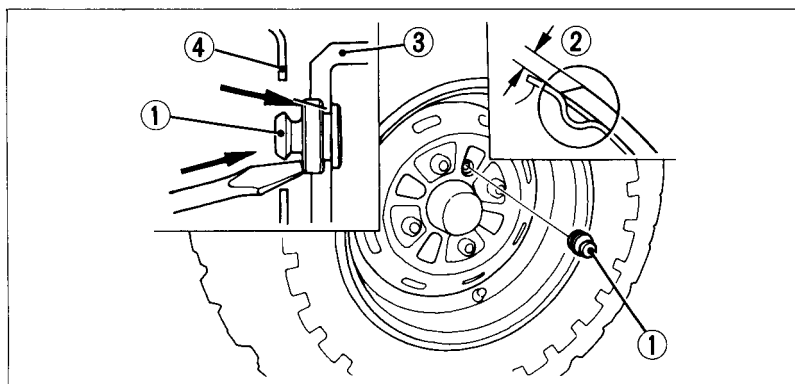
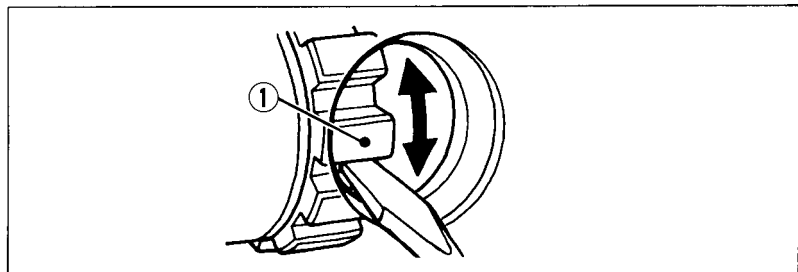

Fig. 4-22
Fig. 4-23
(1) Front brake lever
2. Remove the inspection hole plug (Fig. 4-22) and measure the lining thickness (2) on both front wheels.
3. If the brake lever free play and the brake shoe lining thicknesses are within the recommended limits, reinstall the inspection hole plugs, seating them into the inspection holes as shown in Fig. 4-22.
3. Beginning with either the left or right front wheel, remove the inspection hole plug (Fig. 4-22) and line up the hole with one of the brake adjusters (Fig. 4-23).
4. Using a screwdriver, turn up the brake shoe adjuster (1) until the front brake locks.
(1) Brake adjuster
7. Reinstall the inspection hole plug, seating it into the inspection hole as shown in Fig. 4-22.